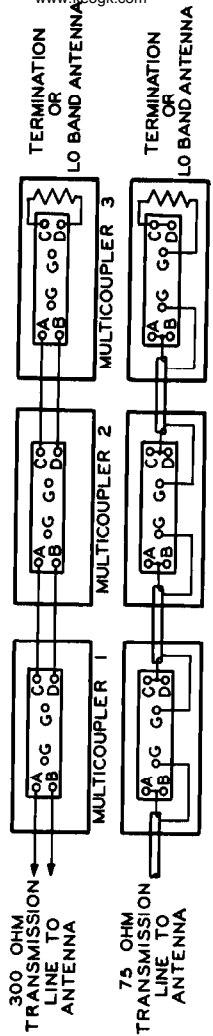

FIG. 2 MULTICOUPLER CASCADE OPERATION
Use termination at C-D, MC 2 as above (A) through (G). See Fig. 2.